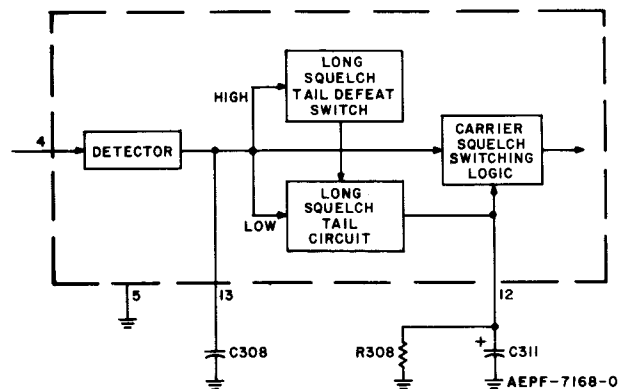

Figure 26. Detector and Switching Circuits
(2) Detector and Switching Circuits (Refer to Figure 26)